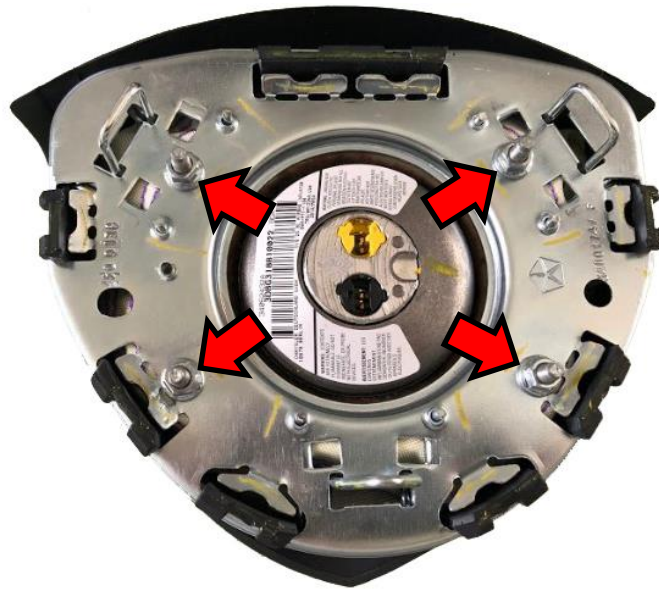

Figure 6 – Backing Plate Four Nut Locations
1. Remove the four nuts on the back side of the DAB module (Figure 6).